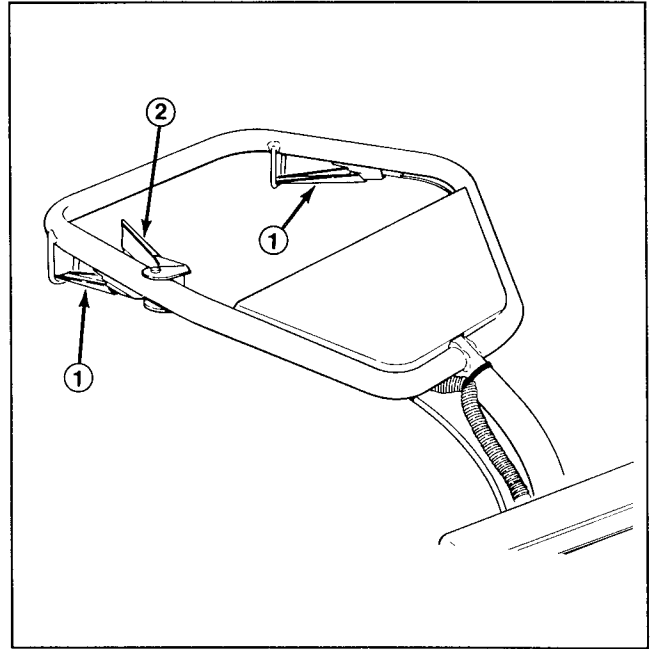

Figure 15
**Interlock Lever Switches (2)** (Fig. 15) — Switches permit engine operation when coring head is lowered. They also hold the traction drive lever in engaged position. One handle switch must be activated before engaging traction drive or lowering the coring head, when engine is running.
**Service Brake** (Fig. 15) — Used to slow down traction operation.